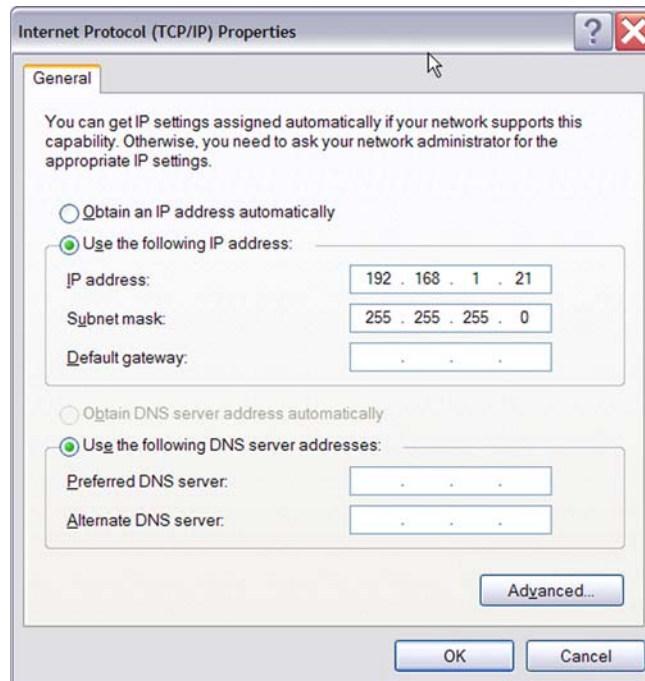

Figure 9. Internet Protocol Properties Dialog
4. Select **Internet Protocol (TCP/IP)** from the scroll down list, and click **Properties** button. The **Internet Protocol (TCP/IP) Properties** dialog appears, see Figure 9.
5. Enter the IP address and subnet mask to match those shown in Figure 9. Leave the remaining fields blank. In this example, an IP address of 192.168.1.21 and a subnet mask of 255.255.255.0 are being assigned to the PC. These values connect the PC to the same network as the Z8 GP ICE unit.